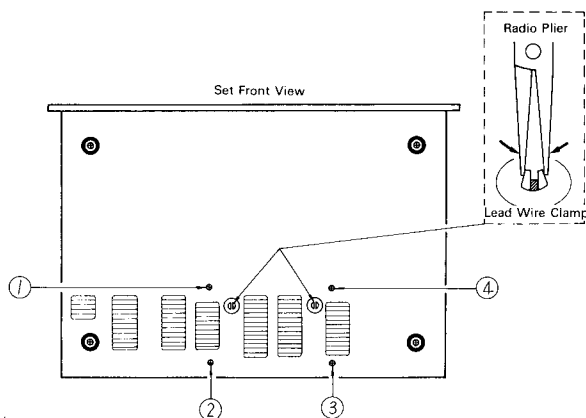

Fig. 1
2. From the underside of the unit, remove the lead wire clamps. Referring to figure 1, hold and push lead wire clamps inside the chassis using radio pliers.
3. Remove the installation screws for the heat sink [ ① ~ ④ of figure 1 ].